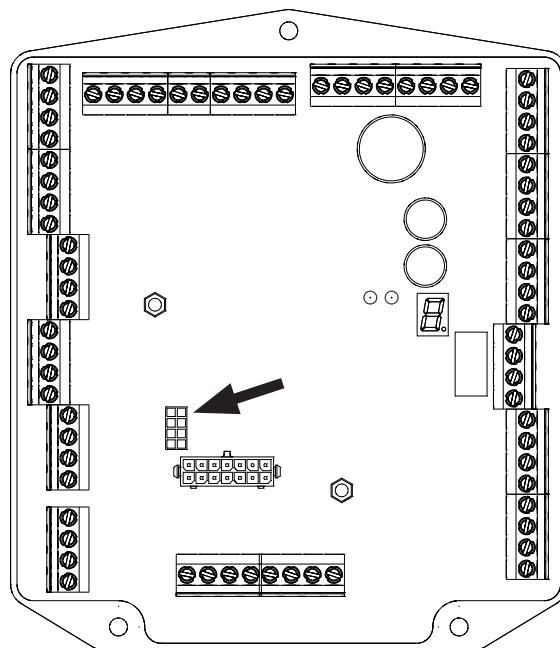

Fig.6. Receiver module terminal block on the control card
1. Identify the receiver module's terminal block on the control card. Fig.6.